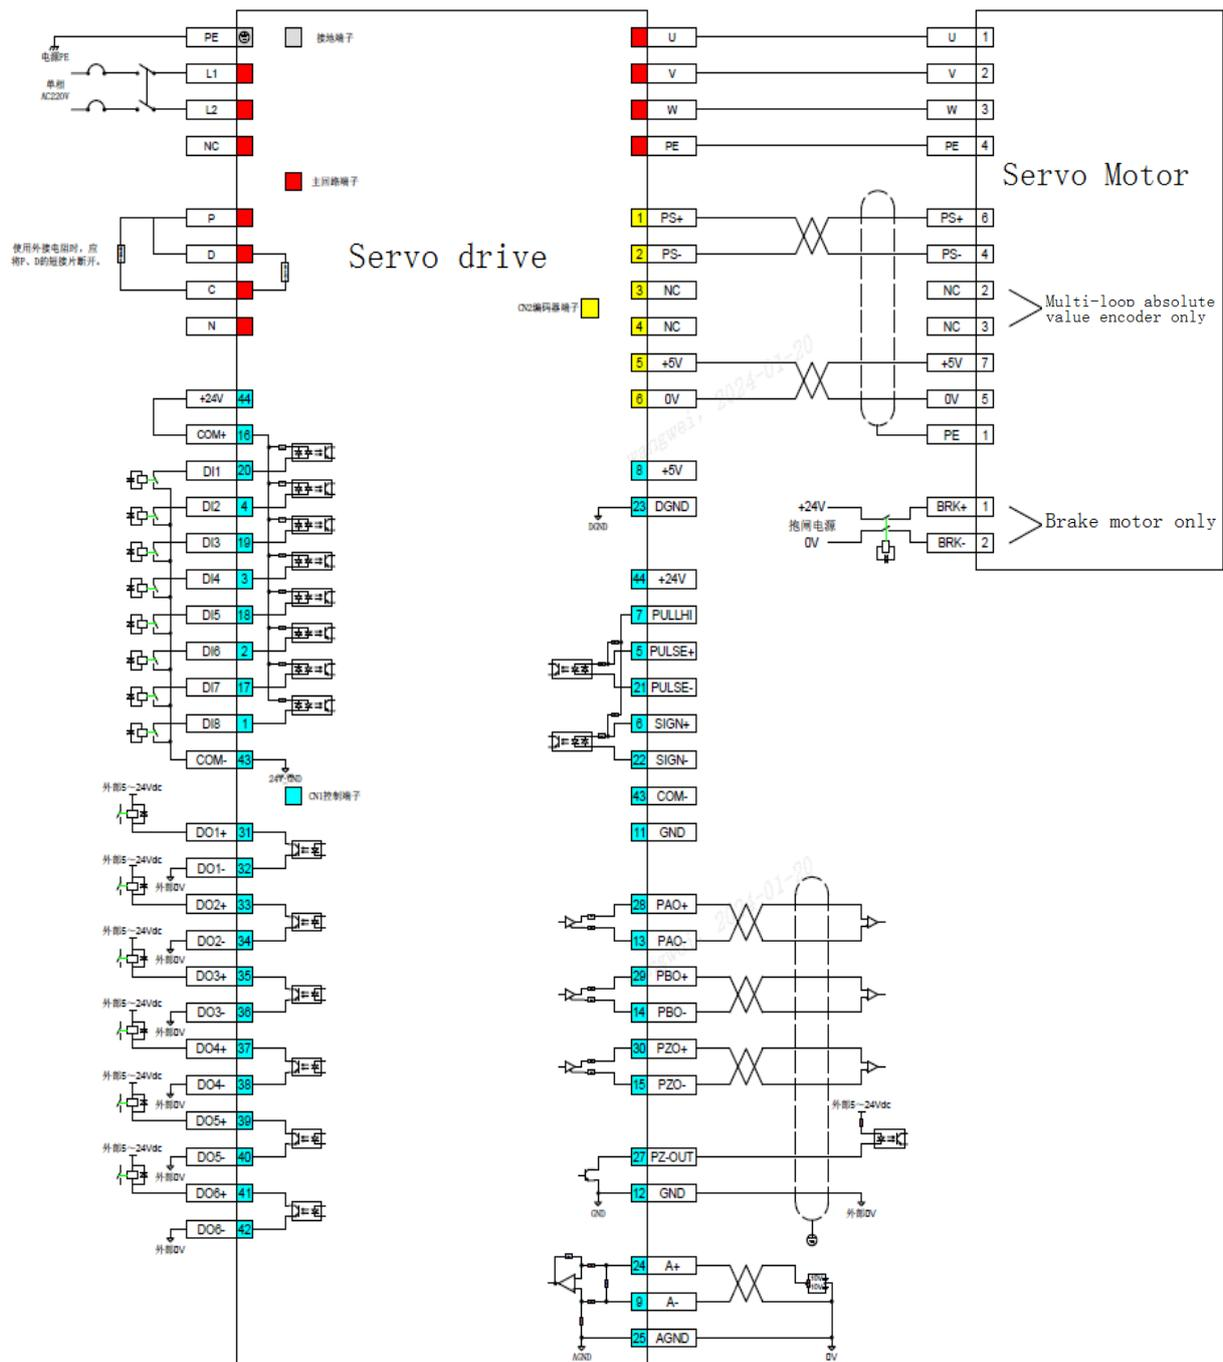

Figure40 Torque Mode Wiring Diagram
- 3) Refer to Figure 40 Wiring Instructions to connect the required DI/DO signals in the CN1 terminal, such as servo enable, alarm clear, positioning completion signal, etc.